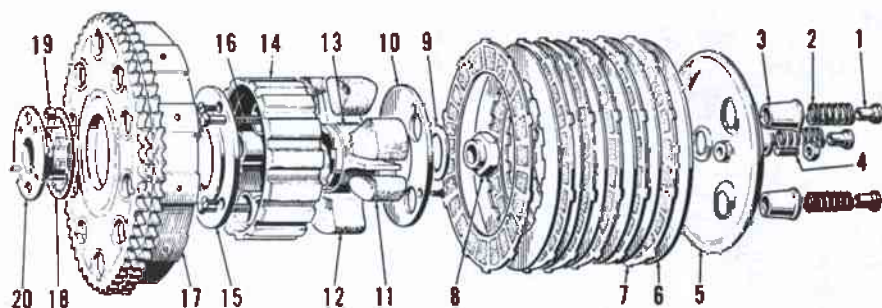

Fig. TM4-27—Exploded view of the clutch assembly. Refer to Fig. TM3-28 for installation of rubber cushions (11 & 12).
**CLUTCH.** Clutch plates can be removed after removing the primary chain case cover and the spring adjusting nuts (1—Fig. TM4-27). Six friction discs (7) and six driven plates (6) are used on all models. To remove the clutch drum and primary chain, it is necessary to remove the alternator rotor and stator, then use special pullers to remove crankshaft primary drive sprocket, clutch drum and primary chain. When removing the clutch drum (17), the special puller which attaches to the drive hub (20) should be used.
ions. "Loctite" should be used on threads of the three screws attaching outer cover (10—Fig. TM4-27) to the hub (14). Install spacer (5—Fig. TM4-24) with tapered side toward main bearing. Position the crankshaft primary drive sprocket, chain and clutch drum (17—Fig. TM4-27) on shafts at the same time. Washer (9) should be installed with cupped side out toward nut. On models after serial number DU48144, nut (8) is self locking. On earlier models, lock washer should be installed between washer (9) and nut (8) with the long tab engaging hole in spider (13). On all models, nut (8) should be tightened to 50 Ft.-Lbs. (6.9kg.-m) torque. On early models, with lock washer, washer should be bent around nut after tightening. Refer to ignition and electrical section when installing the alternator rotor and stator. Refer to the primary drive chain paragraphs for adjusting chain tension.